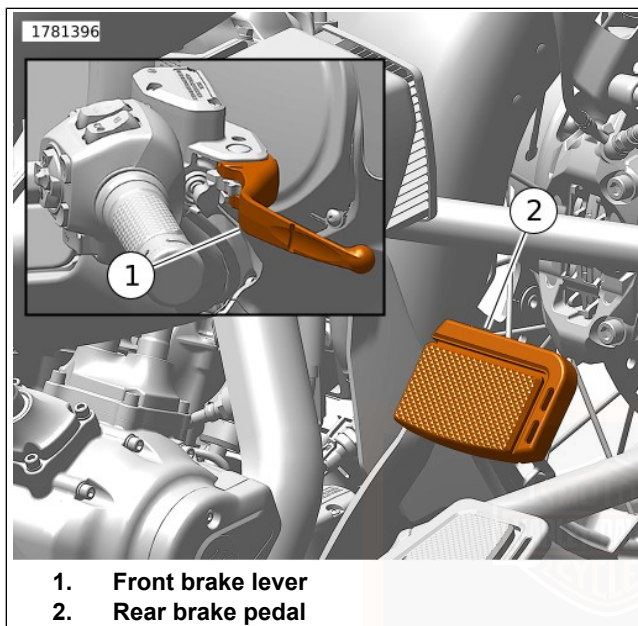

Figure 61. Brake Controls
See Figure 61. The front brake hand lever (1) controls the front wheel brake. The lever is on the right handlebar. Operate the hand lever with the fingers of the right hand.
See Figure 61. The rear brake pedal (2) controls the rear wheel brake. The pedal is on the right side. Operate the rear brake pedal with the right foot.